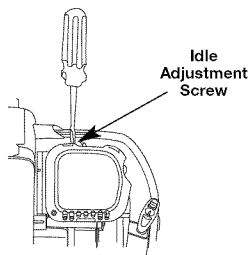

Fig. 27
The idle speed of the engine is adjustable. An idle adjustment screw is between the air filter cover and the engine starter housing (Fig. 27).
2. Release the throttle trigger and let the engine idle. If the engine stops, insert a small phillips screwdriver in between the Air Filter Cover and the Engine Cover (Fig. 27). Turn the idle speed screw in, clockwise, 1/8 of a turn at a time (as needed) until the engine idles smoothly.